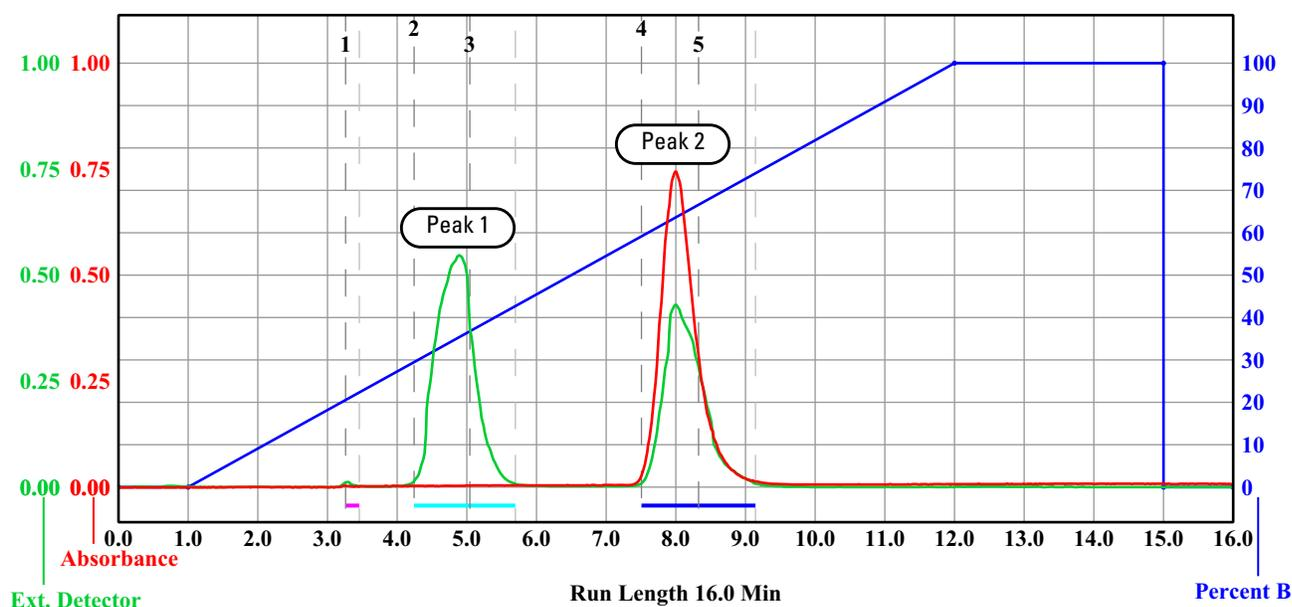

Figure 1: Test Mix C Chromatogram
14. When the module finishes the run, review the resulting chromatogram which should meet the following criteria (refer to Figure 1):